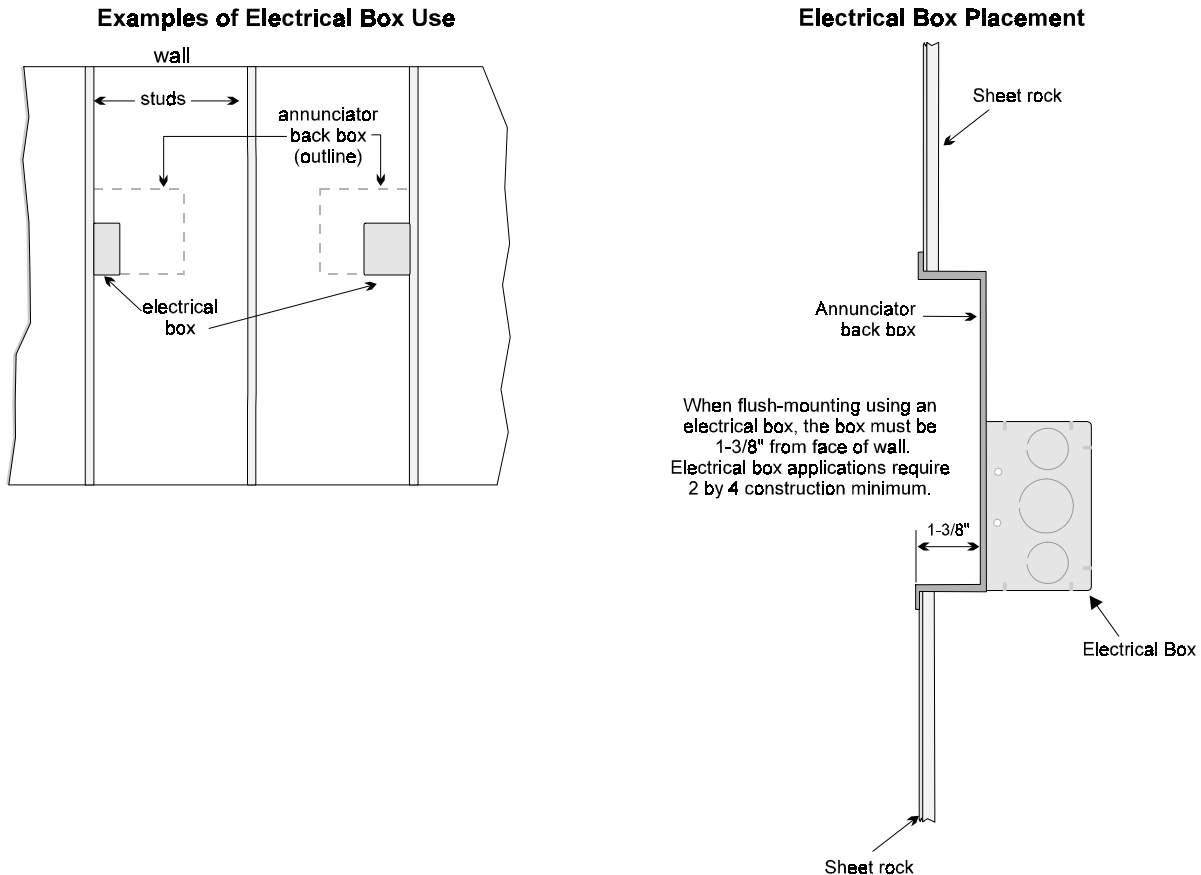

Figure 4-12 Placement of Electrical Box for Flush Mounting
1. Cut a hole in the sheet rock to the following dimensions: 8-1/4" w x 6-5/8" h. If an electrical box is used, the box must be 1-3/8" back from face of wall to accommodate the annunciator (see Figure 4-12).